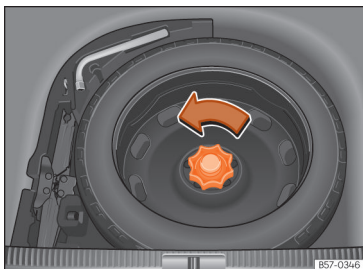

Fig. 248 In the luggage compartment: raised load floor.
- Turn the thumb wheel anticlockwise >>> Fig. 248.